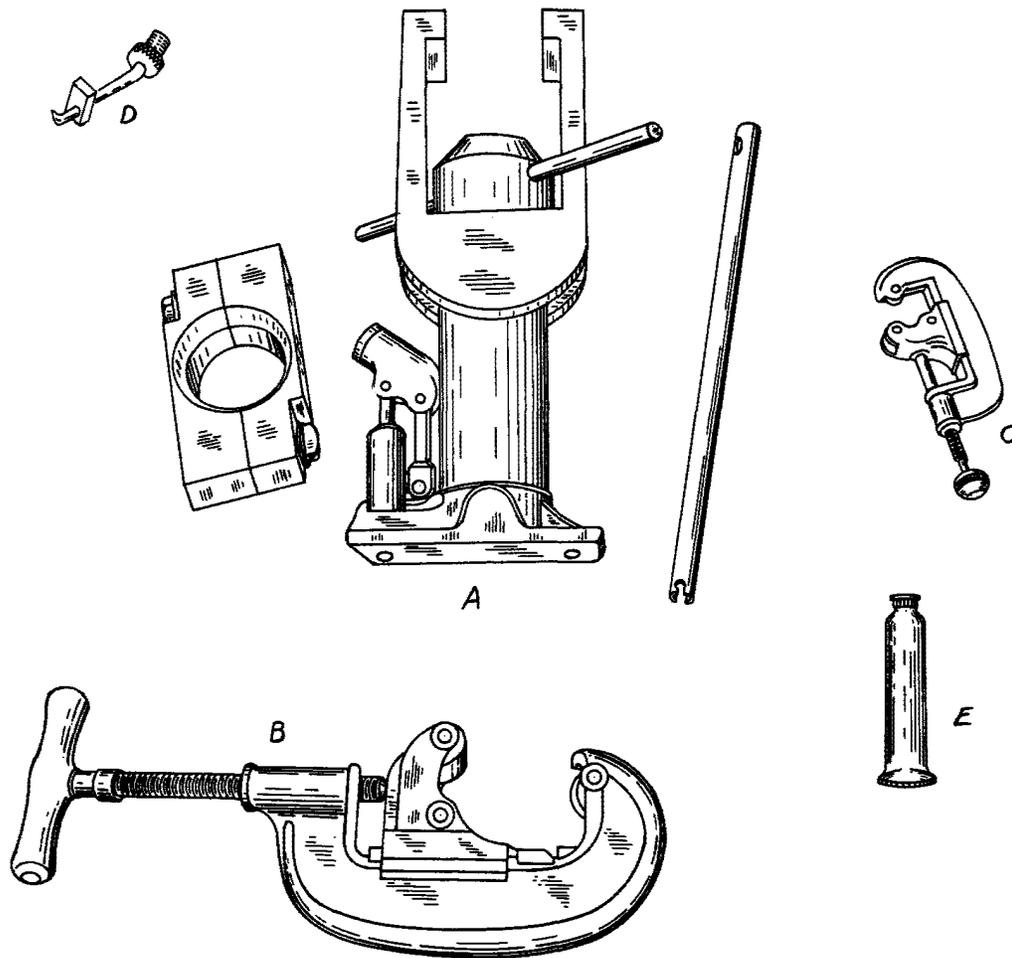

Fig. 26
3.07 Special Tools: Shown in Fig. 26 are special tools required to properly terminate flare type fittings on STYROFLEX cables having an outside diameter of $1-5/8$ -inch to $3-1/8$ -inch. The following lists the catalogue
numbers of tools shown in Fig. 26 which are supplied by the Communication Products Co.